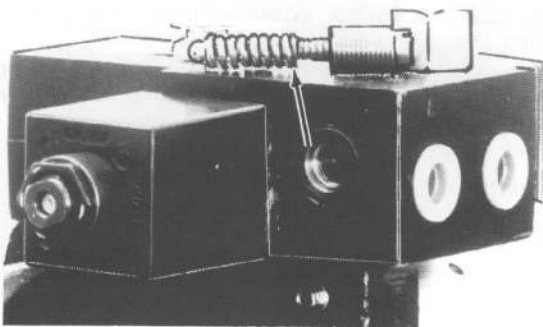

Figure 1-6
3. Remove the slotted screw, springs and ball. See Figure 1-6.
6. Re-install the ball, spring and adjustment screw. (the adjustment screw should be turned in approximately five full turns). See Figure 1-6.